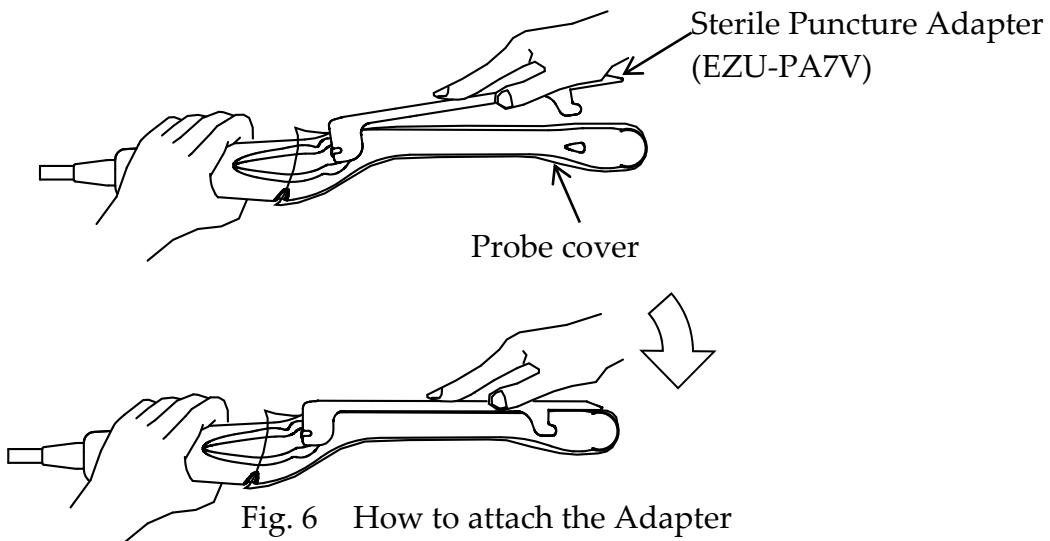

Fig. 6 How to attach the Adapter
- 1) Put the picks of the Sterile Puncture Adapter to the projection on the probe. (See the top of Fig. 6)
- 2) Push the other end of the Sterile Puncture Adapter until the dents of the Sterile Puncture Adapter are fixed at the grooves of the probe. (See the bottom of Fig. 6)